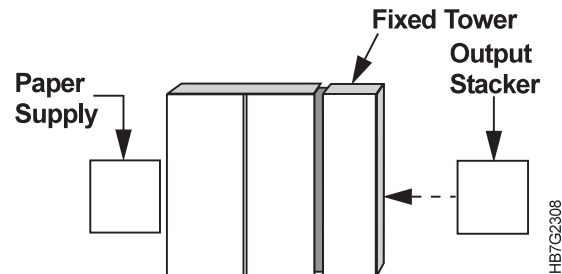

Figure 285. Right Side View of the InfoColor 70
- 17 Put the output stacker back in its correct position, as shown in Figure 285.